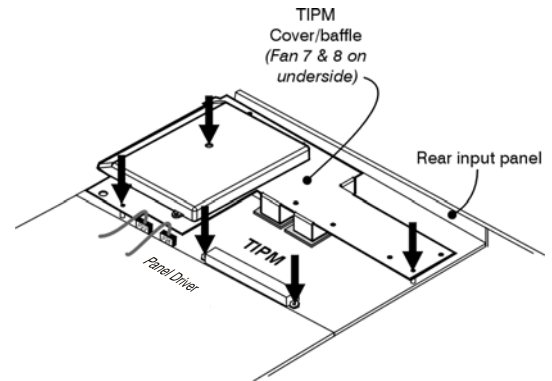

Figure 27. Remove the TIPM Cover
2. Remove the three (3) screws securing the TIPM cover/baffle over the TIPM (Figure 27).